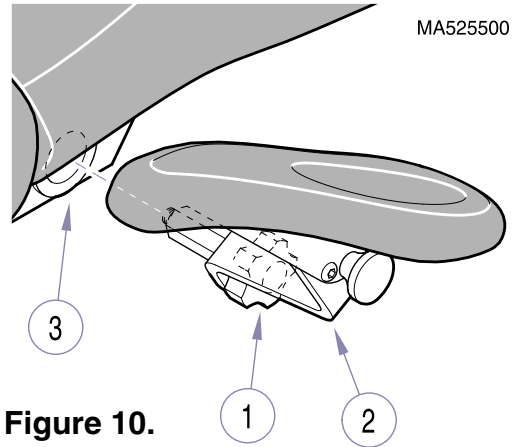

Figure 10.
1. Loosen knob (1, Figure 10) and pull armrest (2) out of drive slot (3).